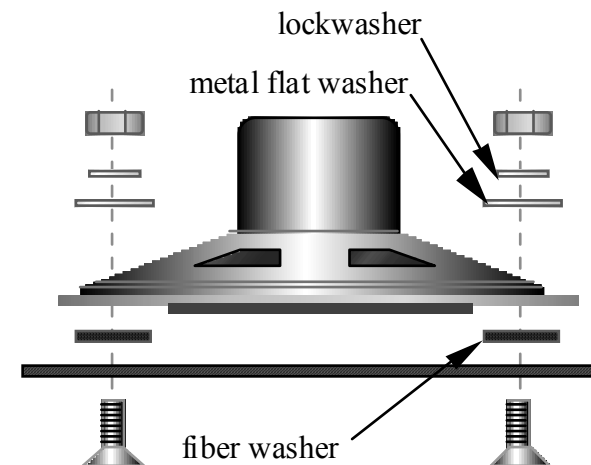

Figure 10-2
- Trim the speaker grille cloth so it is the same size as the speaker frame and then trim the corners so it fits between the fiber washers. Keep the grille cloth in place as you secure the speaker to the top cover using four 5/16" (8 mm) flat-head screws, #4 fiber washers (black), #4 metal flat washers, #4 internal-tooth lock washers, and 4-40 nuts (Figure 10-2). The fiber washers go between the speaker and the top cover. **Do not over-tighten the nuts, as this can flex the speaker frame, causing damage to the speaker and/or distorted audio.**